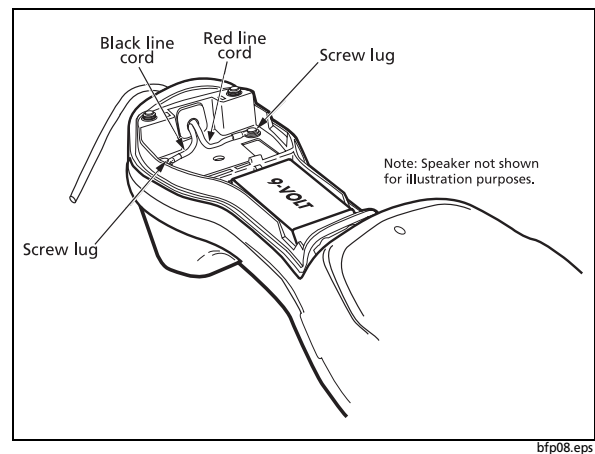

Figure 8. Removal/Installation of Line Cord Screw Lugs
- 6 Slip the line cord screw lugs (Figure 8) out through the hole in the end of the housing.
- 2 Fasten the red wire lug to the PCB (Ring) with screw and washer (Figure 8).
- 3 Fasten the black wire lug to the PCB (Tip) with screw and washer (Figure 8).